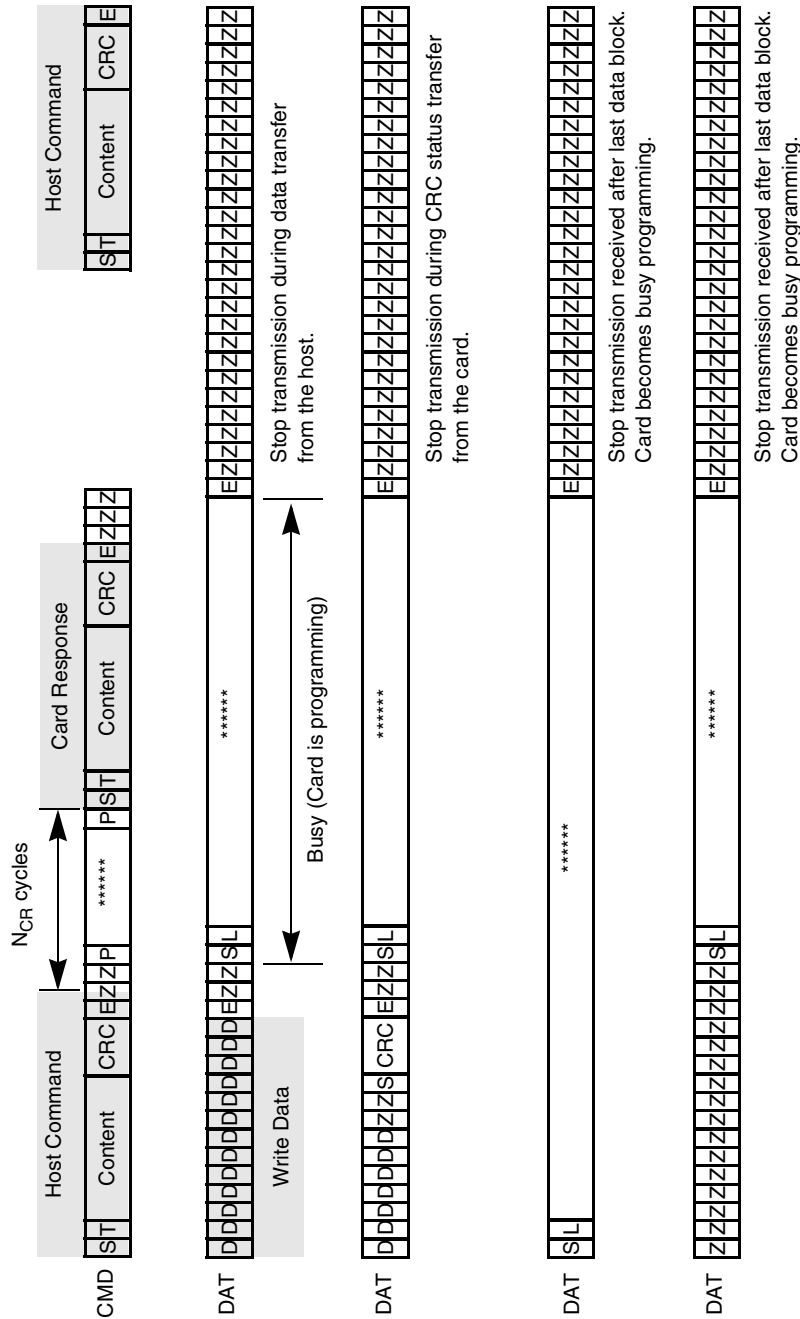

Figure 52. Stop Transmission During Different Scenarios
The card identification and card operation conditions timing are processed in open-drain mode. The card response to the host command starts after exactly  $N_{ID}$  clock cycles. For the card address assignment, SET\_RCA is also processed in the open-drain mode. The minimum delay between the host command and card response is NCR clock cycles as illustrated in Figure 48. The symbols for Figure 48 through Figure 52 are defined in Table 29.
Table 29. State Signal Parameters for Figure 48 through Figure 52
The stop transmission command may occur when the card is in different states. Figure 52 shows the different scenarios on the bus.
Table 30. Timing Values for Figure 48 through Figure 52
**Table 30. Timing Values for Figure 48 through Figure 52 (Continued)**